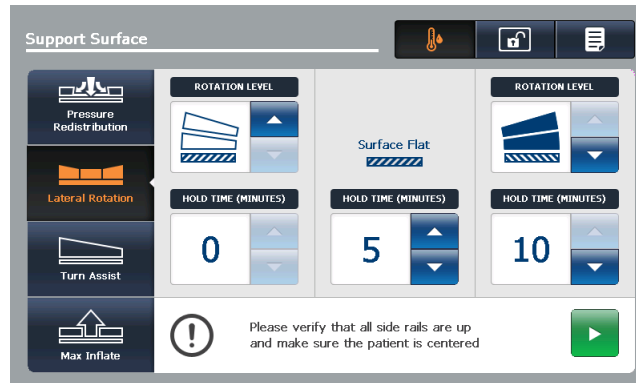

Figure 52: Starting a one-sided Lateral Rotation
2. Tap **Up** on the opposite side to the desired angle (Figure 52 on page 59).
3. Set the desired hold time (Figure 52 on page 59).